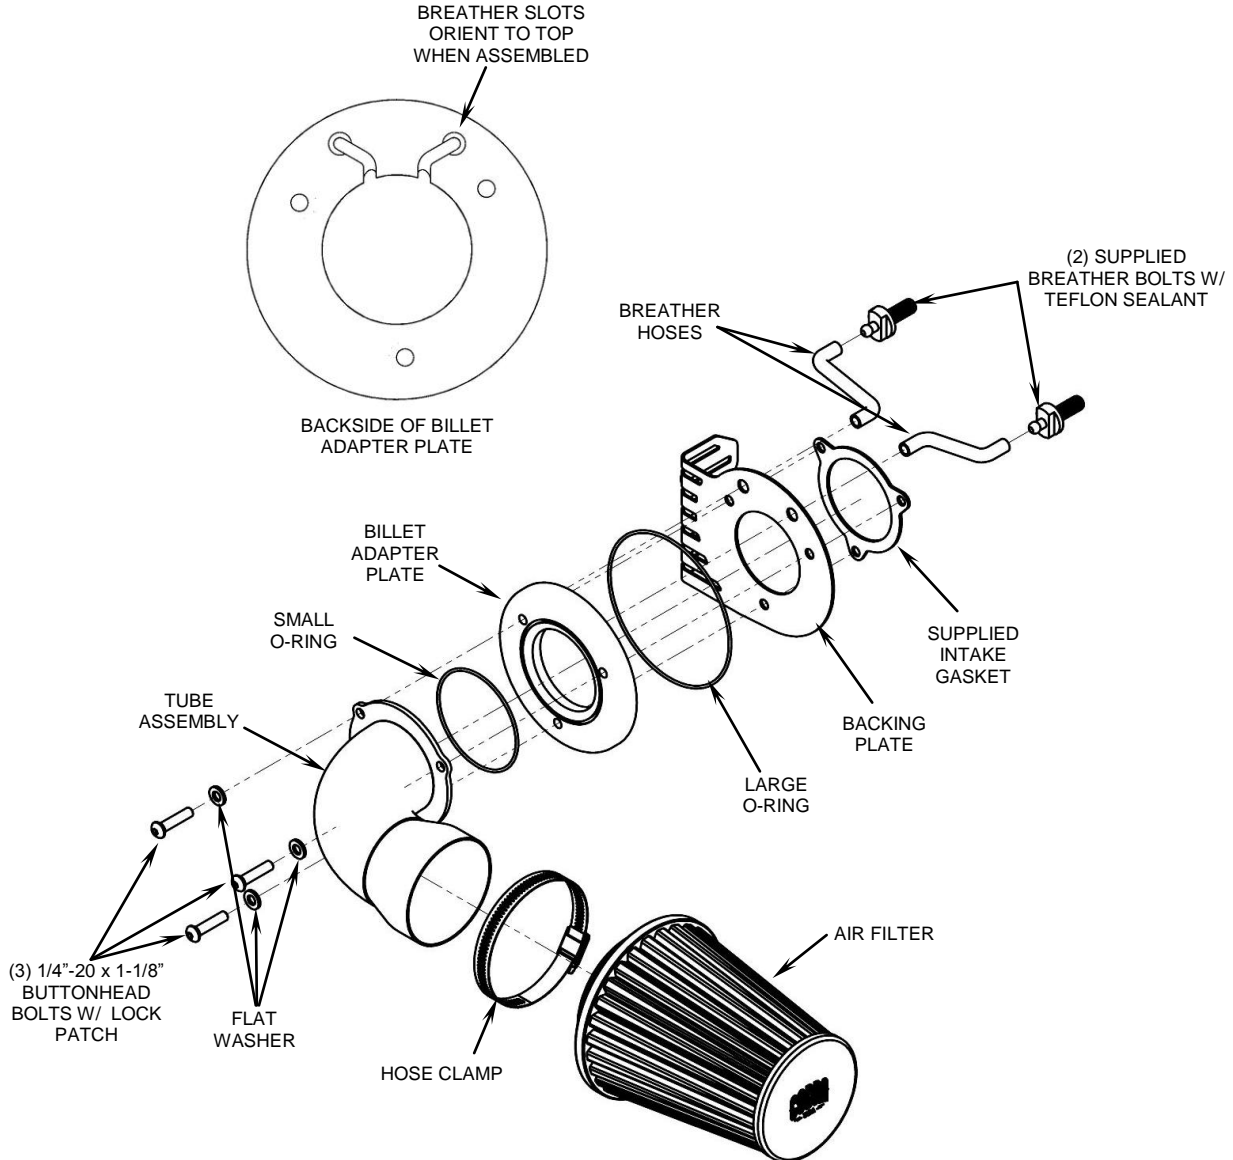

FIGURE 1
1. Remove the allen bolt from the center of the stock air cleaner to remove the cover. Remove the (3) bolts securing the formed bracket located on top of the air filter. Then remove and discard the air filter, air box and seals/gaskets.
2. Remove and discard the (2) stock breather bolts, (2) stock o-rings, and (2) stock breather hoses from the cylinder heads.
3. Install the supplied breather bolts into the cylinders. See **FIGURE 1**. Tighten securely.
4. Insert the end of the breather hoses through the holes in the supplied backing plate so that there is about 1/8" sticking out the other side. This will get pushed into the billet adapter plate in later steps. See **FIGURE 1**.
5. Place the small and large o-rings onto the grooves of the billet adapter plate. A small amount of grease may be needed to hold the o-rings into position. See **FIGURE 1**.
6. Starting with the tube assembly, stack all the parts together in the proper order according to **FIGURE 1**. Make sure the breather hoses are pushed into the billet adapter plate fully and that the o-rings are seated properly in the grooves of the billet adapter plate.
7. While holding that assembly together with one hand, insert the (3) supplied 1/4"-20 x 1-1/8" buttonhead bolts through the flat washers, tube assembly flange and all other components. See **FIGURE 1**.
8. Then align all the components with the throttle body and start threading the (3) buttonhead bolts into the throttle body. Tighten the three bolts evenly.
10. Place the supplied HS-48 clamp around the rubber boot of the K&N® filter so that the clamp screw will be on the inside and facing down. Then slide the filter onto the tube as far as it will go. Align the logo on the front cover so that it is level with the ground and tighten the clamp. See **FIGURE 1**.